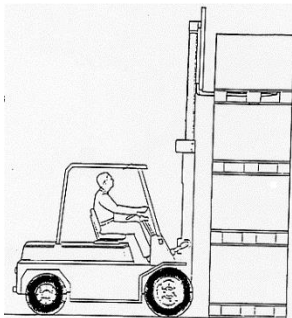

fig. 3
7. Apply the parking brake and raise the load clear of the stack. (See fig. 3)